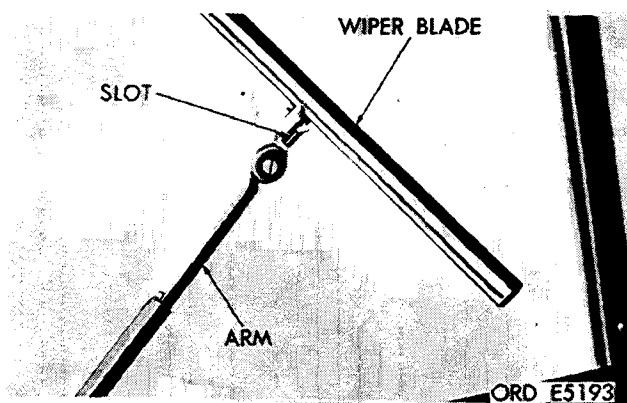
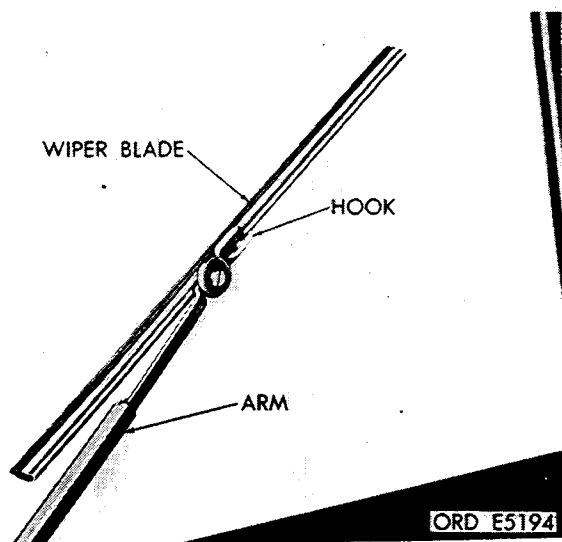

Figure 2-385. Unhook wiper blade from slot in wiper arm (M151, M151A1, M151A1C, and M718 vehicles).
Figure 2-386. Position new blade with hook pointed outward (M151, M151A1, M151A1C, and M718 vehicles).
*a. Removal.* Lift wiper arm so blade clears windshield. Grasp inner end of blade and swing around one-half circle to unhook from slot in wiper arm (fig. 2-385).
*b. Installation.* Position new blade as shown in figure 2-385 with hook pointed inward. Hook into eye of wiper arm and swing through one-half circle and secure with hook pointed outward (fig. 2-386). Drop wiper onto windshield.